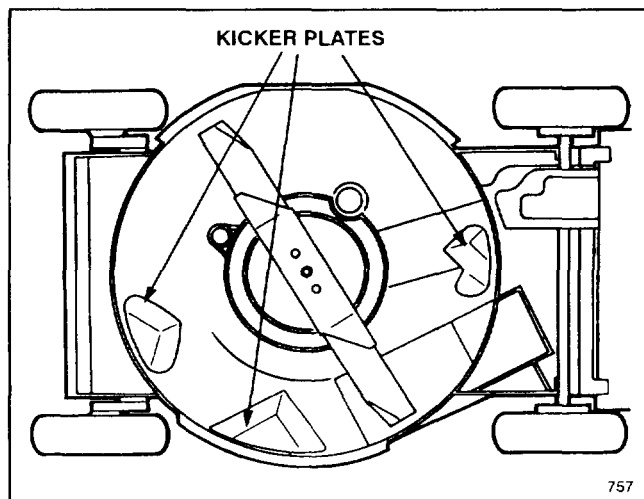

Figure 5
- Three special "kicker plates" positioned on the underside of the mower deck in strategic positions (Fig. 5)